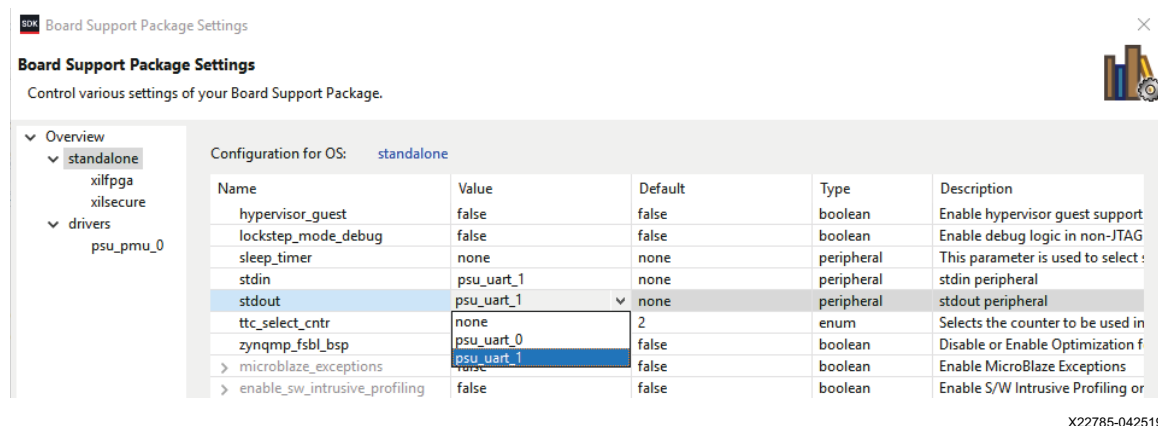

Figure 23: Board Support Package Settings
3. Change the values for stdin and stdout to psu_uart_1 by clicking in that field and selecting **psu_uart_1** from the pull-down menu (see Figure 23).